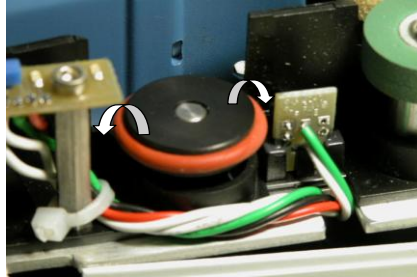

Fig.6
3. Install the new separator rings (see fig.6, 7) on the hubs by pressing down on the surface of the rings, making sure the rings are installed flat on their seats. The feeder ring must be rolled onto the black pulley.